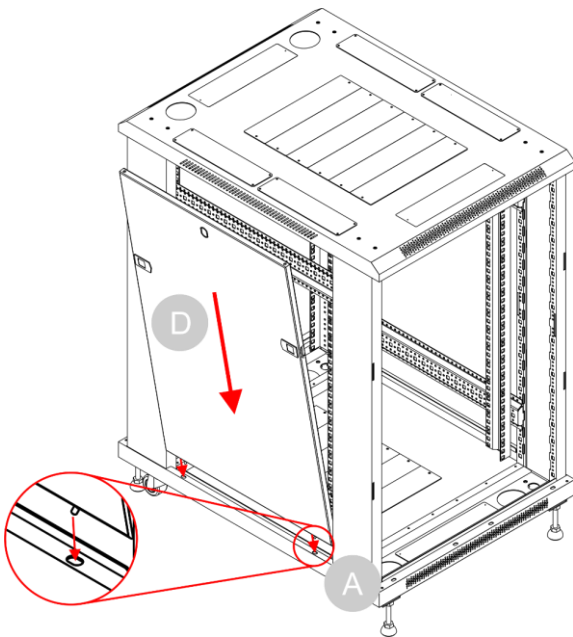

Fig. 35
- 19) Carefully put the **side panel (D)** on the **bottom plate (A)**, so that the 2 pins on the bottom of the **side panel (D)** fit into the holes of the **bottom plate (A)**, as shown in Fig. 35.